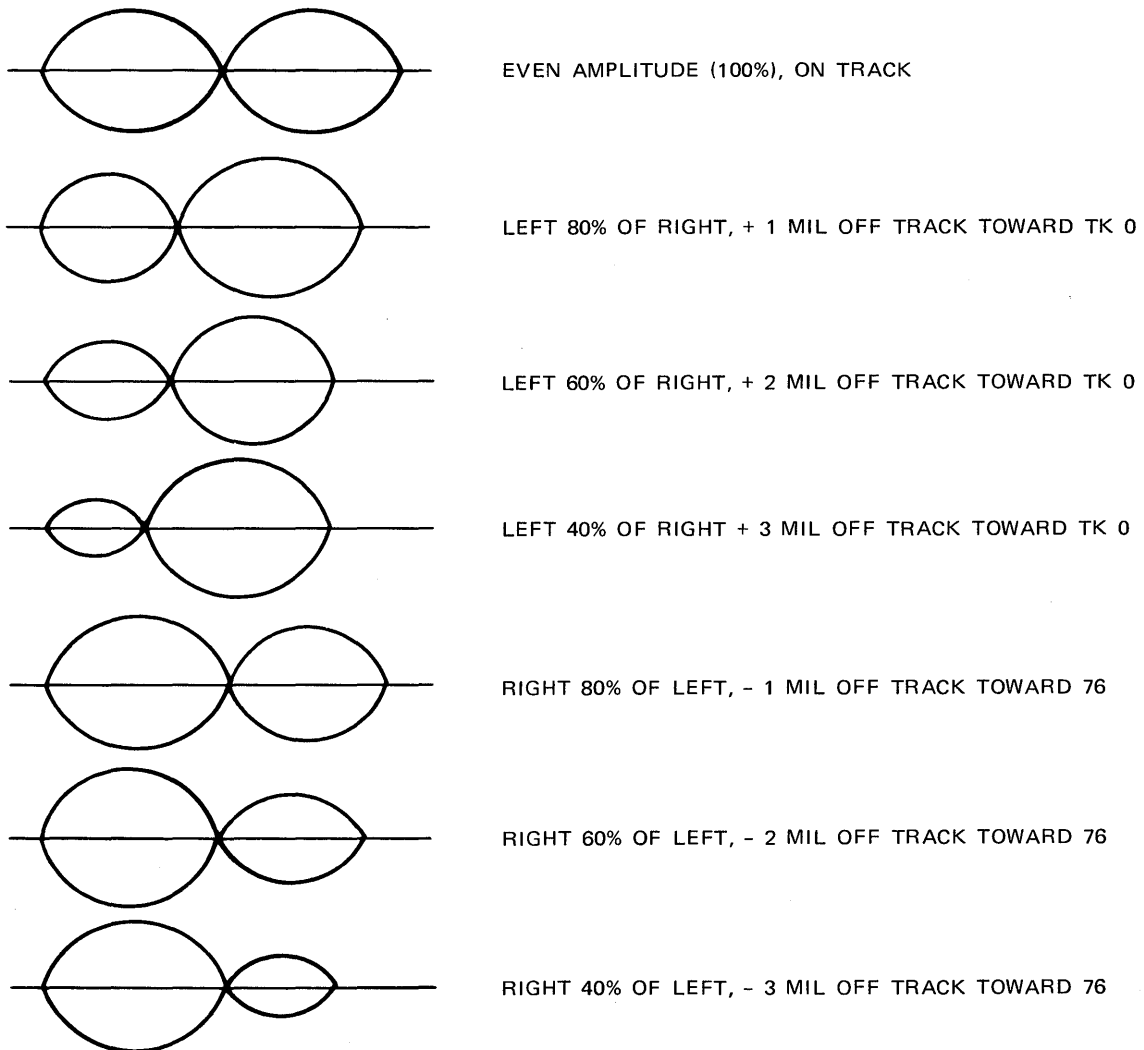

Figure 5-6. Read/Write Head Radial Alignment.
- d. The two lobes or "cat eyes" will now be displayed. The two lobes must be within 70% amplitude of each other. See Figure 5-6. If the lobes do not fall within the specification, continue at step e. If the lobes are within the specification, continue at step h.